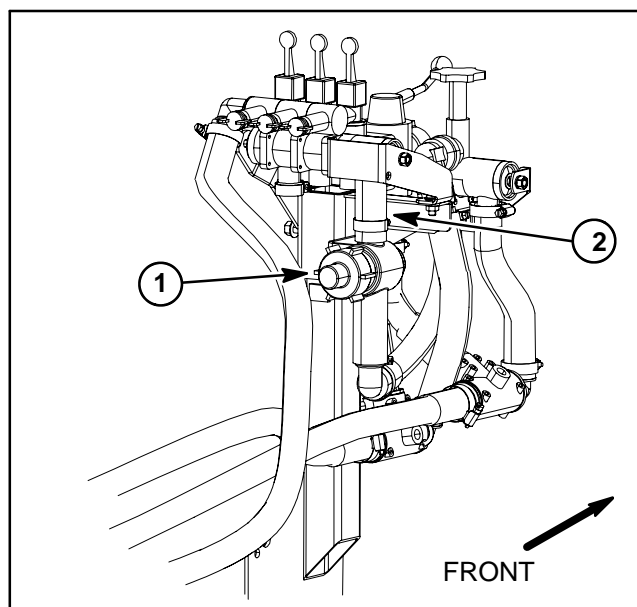

Figure 29
3. Loosen and remove nut that secures flow sensor to housing (Fig. 29). Carefully remove flow sensor from flowmeter housing.